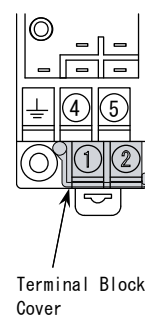

Fig. 1
- (1) Loosen the terminal screw.
- (2) Insert the tip of a screwdriver bit beneath the washer and push it up to make ample room to receive a cable.
The terminals for power supply connection (① and ②) are covered with a plastic plate for safety (see Fig. 1).